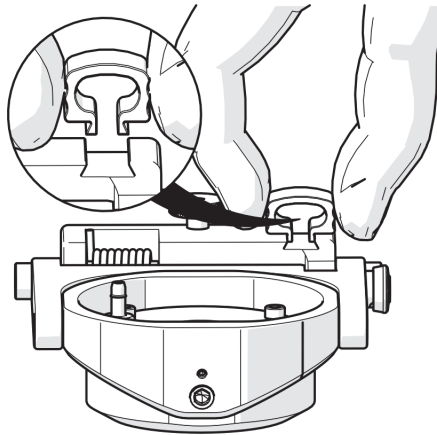

Figure 2-89 Pinch the cable clip to remove
1. The supplied cable clip is offered as a means of cable management, but it is not typically used with the raster arm. Pinch the clip to remove it if necessary (see Figure 2-89 on page 115).